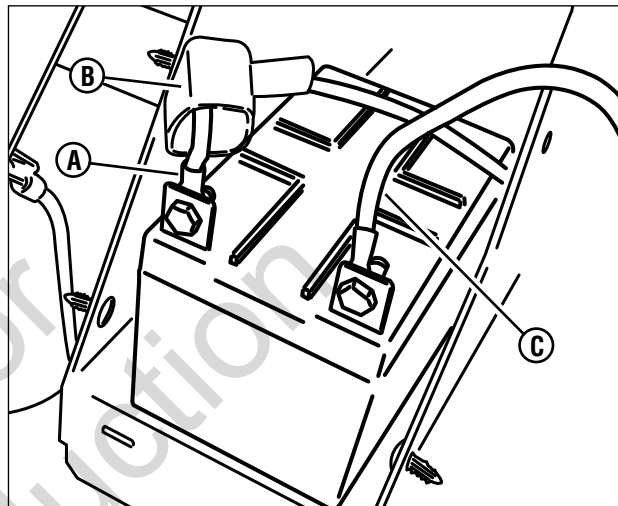

Figure 49: Battery connections
3. Disconnect the BLACK (Negative) cable (**C**, **Figure 49**) from the negative battery terminal. Retain the mounting hardware.
2. Connect the RED positive (+) cable (**A**, **Figure 49**) to the positive terminal (+) on the battery with the removed hardware.